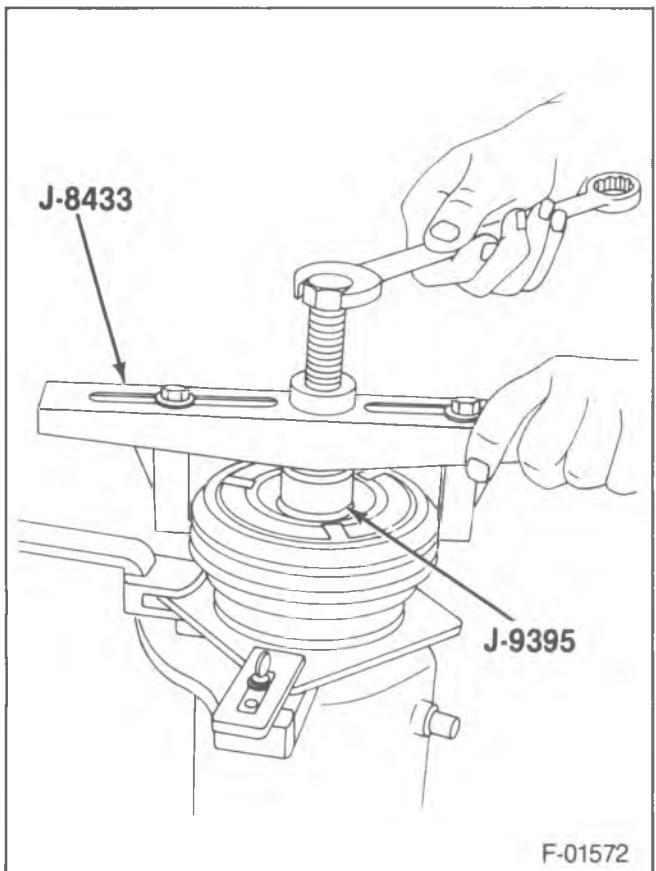

Figure 7—Removing the Pulley and Bearing
- Install J-9395 over the end of the compressor shaft (38) (figure 7).